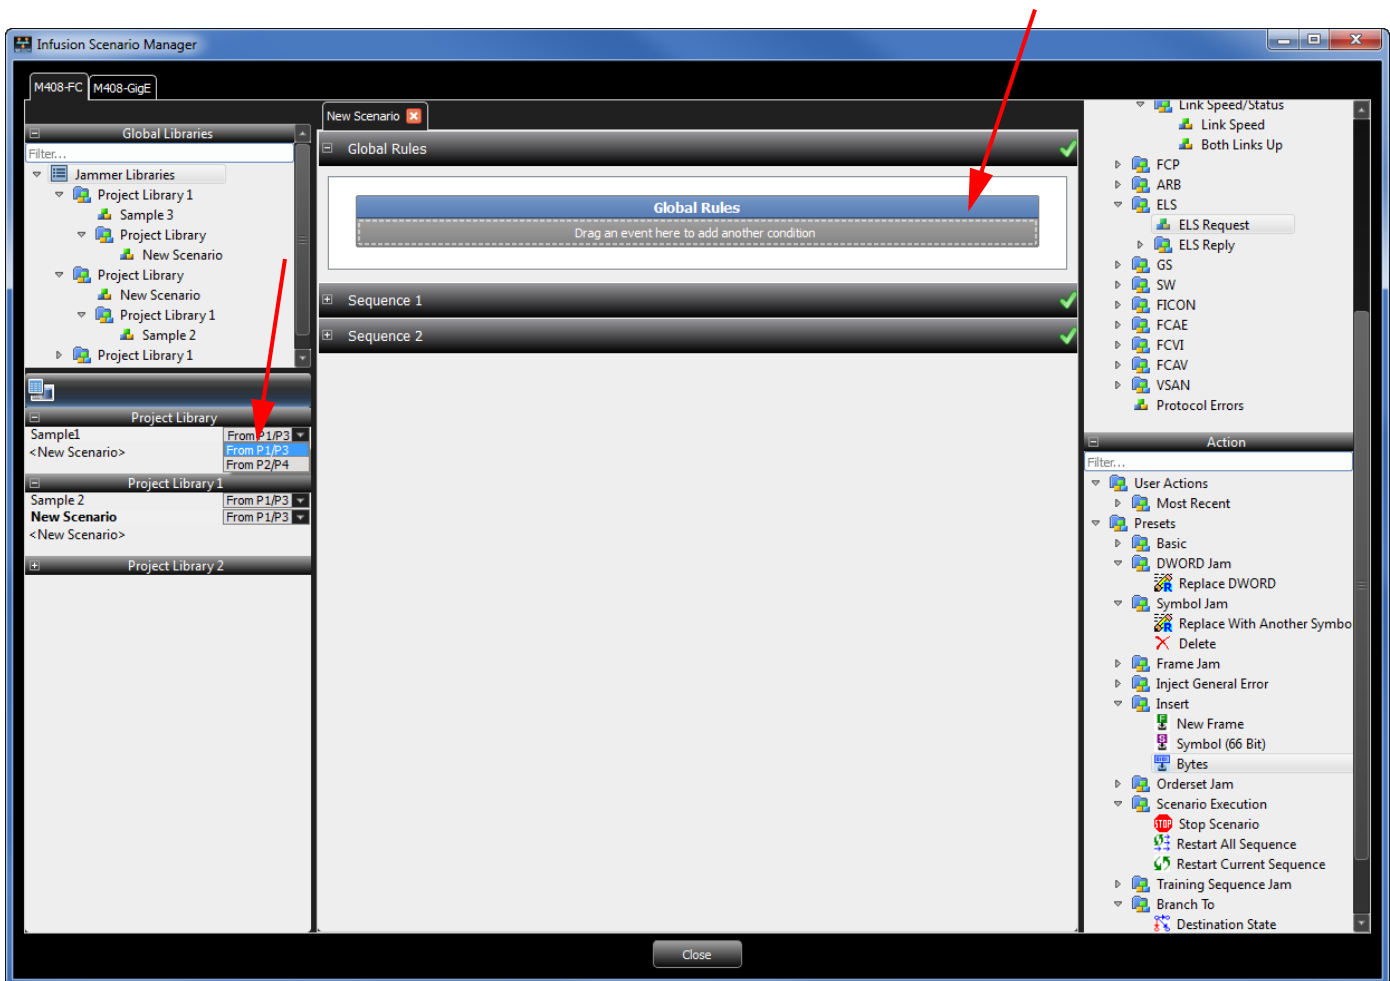

Figure 4.31: Global Rules Panel
2. In the Global Rules panel (see Figure 4.31 on page 210).